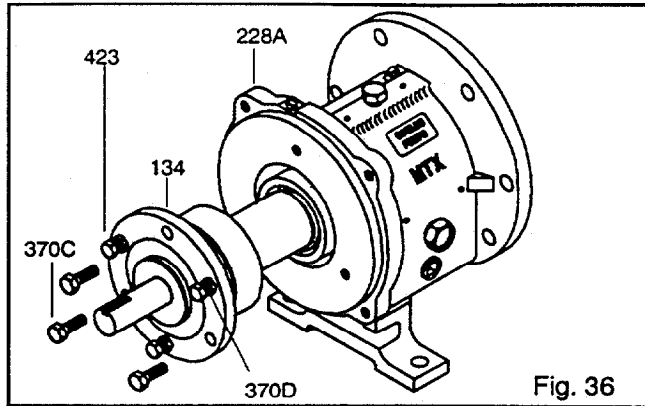

Fig. 36
1. Remove clamp screws (370C). Back off jam nuts (423). Tighten jack screws (370D) evenly, this will start bearing housing (134) out of bearing frame (228A) (Fig. 36).